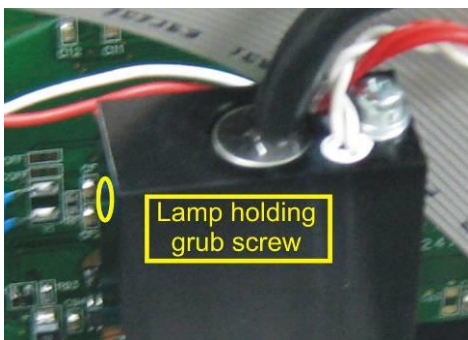

Figure 61 – Location of UV Lamp Securing Grub Screw
5. Loosen the grub screw (1.5mm hex key) from the hole in the left side of the lamp block (refer to Figure 61) securing the UV lamp and slide the UV lamp out of the block.